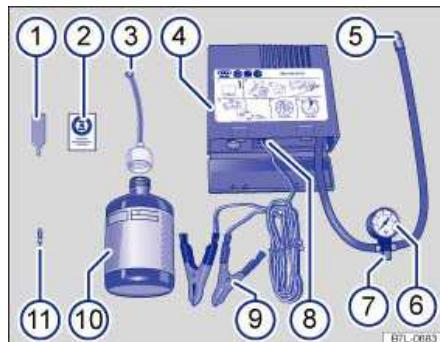

Fig. 343 Basic diagram: Contents of the tire mobility set.
The tire mobility set is stored in the luggage compartment under the floor panel. It contains the following ⇒ fig. 343:
11. Affix the label ⇒ fig. 343 \(2\) from the tire mobility set on the dashboard in the driver's field of vision.
- Unscrew the valve core from the tire valve using the valve core wrench ⇒ fig. 343 \(1\) and place it on a clean surface.
- Vigorously shake the tire inflation cylinder ⇒ fig. 343 \(10\) a few times back and forth.
- Tightly screw the filling hose ⇒ fig. 343 \(3\) to the tire inflation bottle (turn clockwise). The foil on the seal is automatically pierced.
- Remove the sealing plug from the filling hose ⇒ fig. 343 \(3\) and slide the open end onto the tire valve.
- Using the valve core wrench ⇒ fig. 343 \(1\) screw the valve core back into the tire valve.
- Screw the tire inflation hose ⇒ fig. 343 \(5\) of the air compressor tightly to the tire valve.
- Check whether the air release valve ⇒ fig. 343 \(7\) is screwed on tightly.
- Attach the cable clips ⇒ fig. 343 \(9\) **only** to the jump-start terminals in the engine compartment ⇒ fig. 344. The red clip on the compressor cable is connected to the positive (+) terminal; the black clip is connected to the negative terminal (-).
- Switch the air compressor on using the ON / OFF switch ⇒ fig. 343 \(8\),
Connect the tire inflation hose ⇒ fig. 343 \(5\) again and read the tire pressure on the tire pressure gauge \(6\).